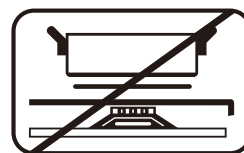

Fig.1
- Do not place anything, e.g. flame tamer, asbestos mat, between pan and pan support as serious damage to the appliance may result. (Fig 1)